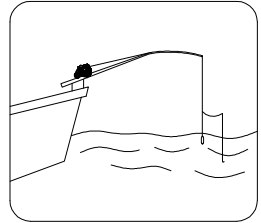

Figure 10-1-1
1. After the fishing line is tied up with the lead, place the lead at the sea level as the zero point of line-out (Figure 10-1-1). After plugging in the power supply, the screen will display (Figure 10-1-2), and the line-out can be performed at this time.